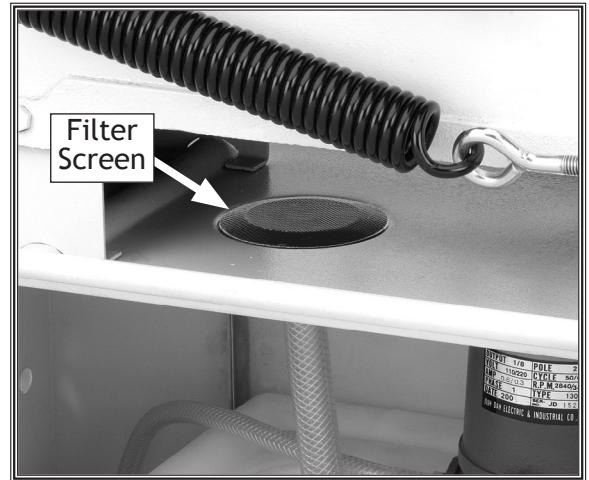

Figure 15. Installed drain screen.
1. Place the filter screen dome-side up as shown in **Figure 15** in the bandsaw catch pan.